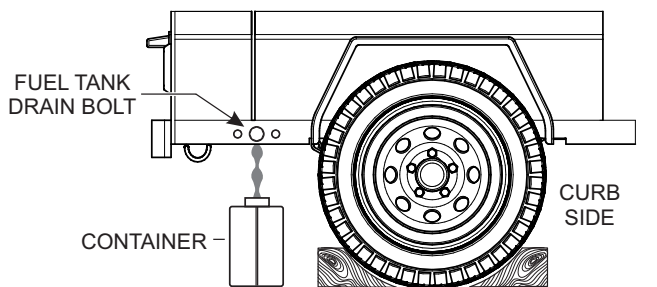

Figure 56. Draining Fuel Tank
2. The fuel drain bolt is located at the rear of the trailer frame (curb-side). Loosen the drain bolt (Figure 56) to remove any fuel remaining inside the fuel tank.